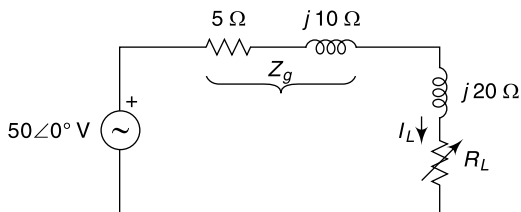

Fig. 6.17 Circuit of Ex. 6.14
6.14 In the network shown in Fig. 6.17 the load consists of a fixed inductance having reactance $20 \, \Omega$ and a variable resistance. Find the value of R_L for which power transfer is maximum and also find the value of the maximum power.